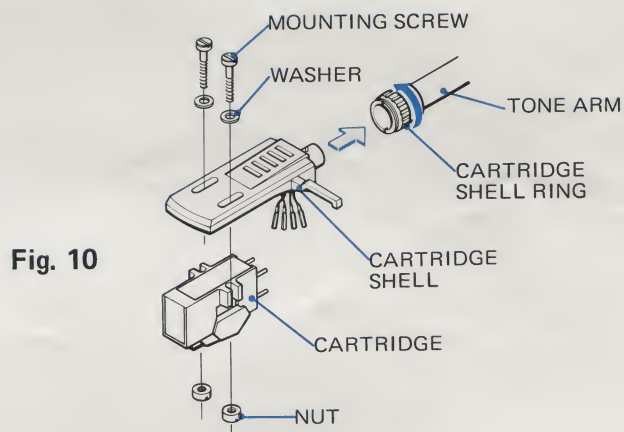

Fig. 10
- 3 Plug the cartridge shell into the tone arm and tighten the cartridge shell ring by turning it clockwise. (Fig. 10)